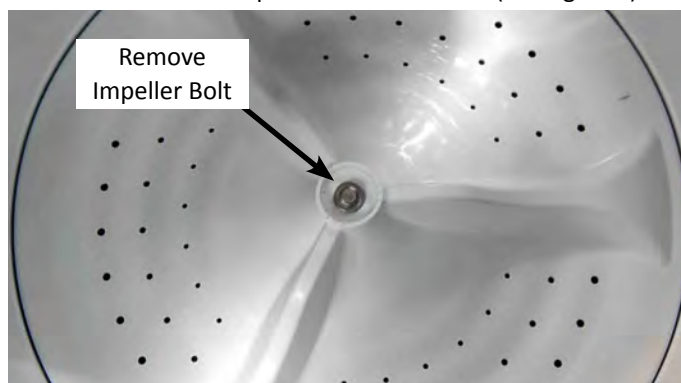

Figure 7
2. Remove the 7/16" hex-head bolt from the impeller, then lift and remove the impeller from the basket (see Figure 7).